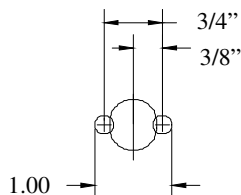

Figure 2.
- Enlarge access hole to allow for block and carriage bolt use 1/2" drill bits (See Figure 2.) or use a die grinder to enlarge the access hole in bottom of frame rail. See Figure 2. Paint any bare metal.
- Feed pull wires with spacer and bolt (item 5 & 6) into frame rail thru enlarge access hole and out the attachment holes. Leave pull wires attached.